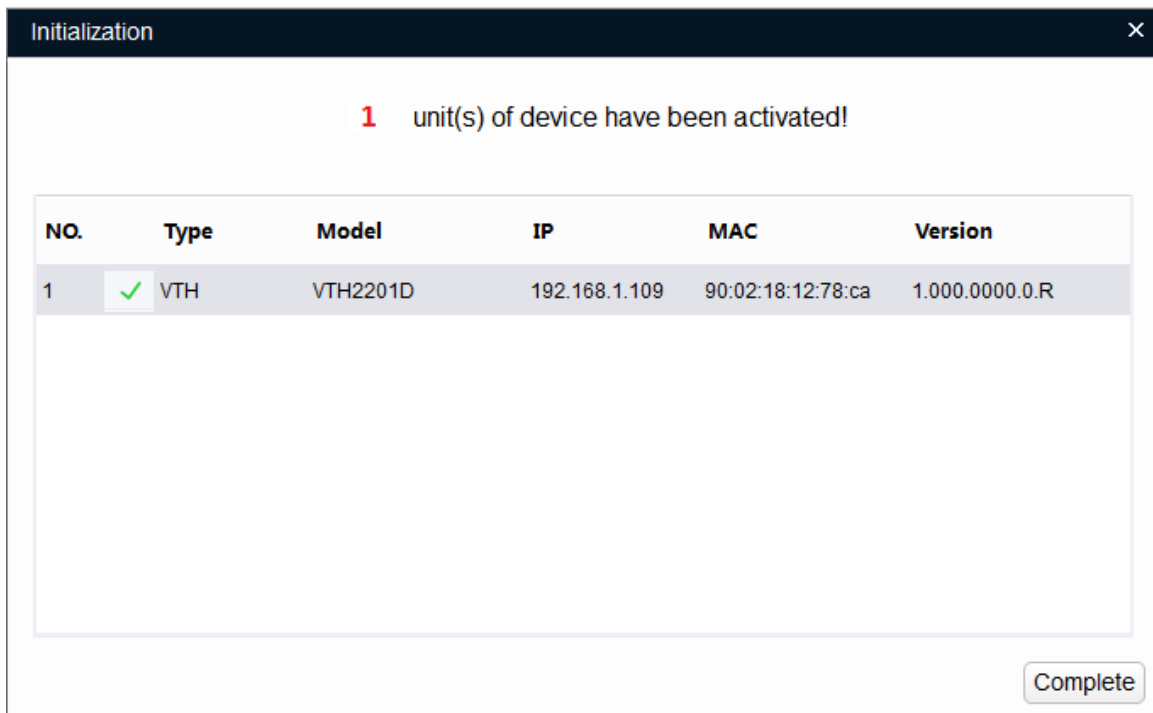

Figure 3-17
- Use the default settings; click “OK” to start initialization. On completion, the system displays Figure 3-17.